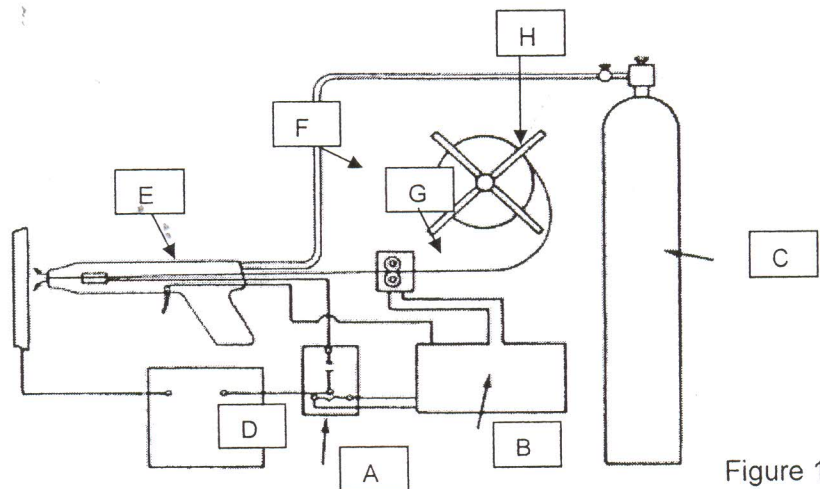

Figure 1
- a) State the component of Metal Inner Gas (MIG) welding process as shown in figure 1 (8 marks)